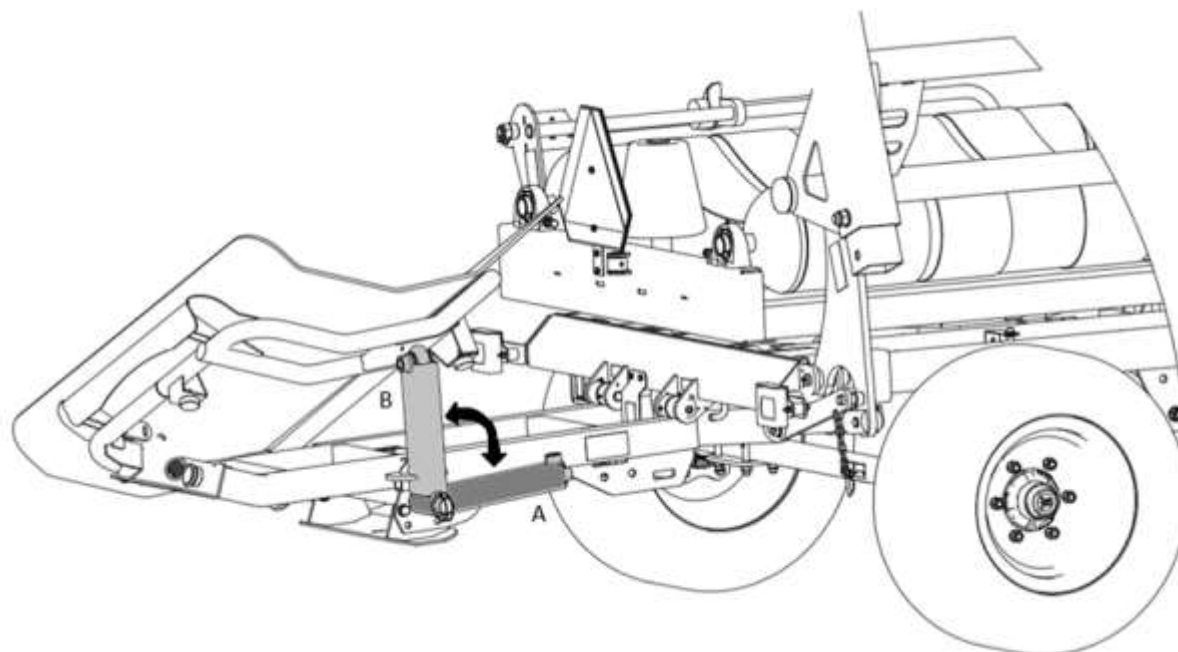

Figure 10 Unloading positions of the bale tipper
(1) outer frame, (2) cradle frame, (3) adjustable arm, (4) foot plate, (5) actuator, (6) cradle rotation pin, (7) moving cradle, (8) tipper hinge pins
The bale tipper consists of an outer frame (1) and an inner cradle (2) fixed with pins (8) to the rear beam in the bottom frame. The actuator (5), automatically activated when the bale is unloaded from the rotary frame, moves the cradle frame. The foot plate (4) is lowered which is caused by the unloading movement of the rotary frame and the movement of the bumper mounted on the outer frame (1) under the turntable slide base. The adjustable arm (3) on the right-hand side of the bale tipper can be set in two positions (Figure 10). If set to the position (A), the bale will roll over behind the bale wrapper after unloading. In variant (B), when the adjustable arm (3) is raised to the vertical position, the cradle frame will be lowered to rest against the roller of the adjustable arm and rotate around the centreline of the cradle rotation pin (6). The bale will be placed on the left side of the cradle in a vertical position (with its bottom on the ground).